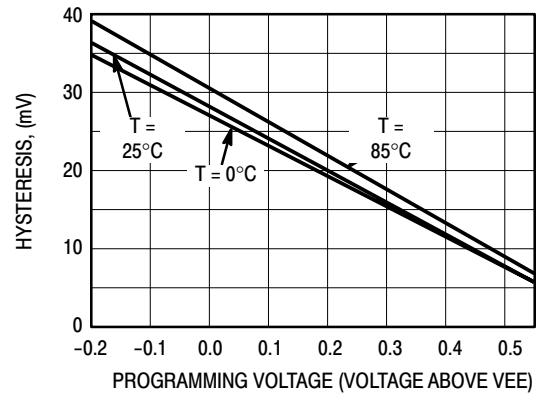

Figure 4. Hysteresis Programming Voltage
9. Refer to Figure 4 and note that the input is at 850 mV ECL levels with the input threshold range between the 20% and 80% points. The delay is measured from the crosspoint of the input signal and the threshold value to the crosspoint of the Q and $\bar{Q}$ output signals.